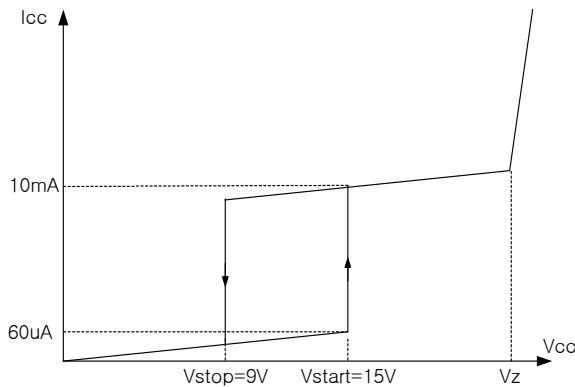

Figure 1. Relation between supply current and voltage
1. Startup : To guarantee stable operation of the control IC, Vcc has under voltage lockout (UVLO) with 6V hysteresis. Figure 1 shows the relation between the supply current (I_{cc}) and the supply voltage (V_{cc}). Before V_{cc} reaches 15V, the start-up current is 60 μ A, which is usually provided by the DC link through start-up resistor. When V_{cc} reaches 15V, the control IC begins operation and the operating current increases to 10mA as shown. Once the control IC starts operation, it continues its normal operation unless V_{cc} goes below the stop voltage of 9V.